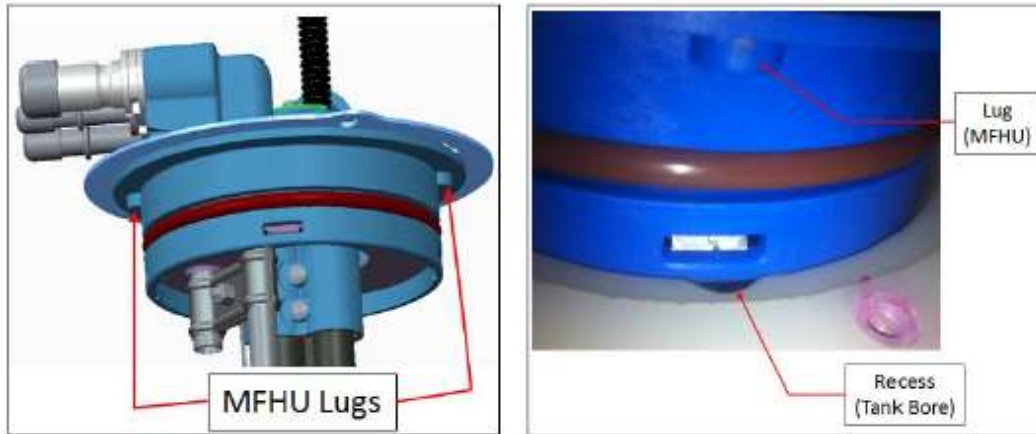

Figure 13: Align MFHU lugs with the recesses on the tank bore during re-assembly.
19. Press on the top of the MFHU mounting base until it is completely seated in the tank bore (do not press on the fittings). Refer to Figure 13 below